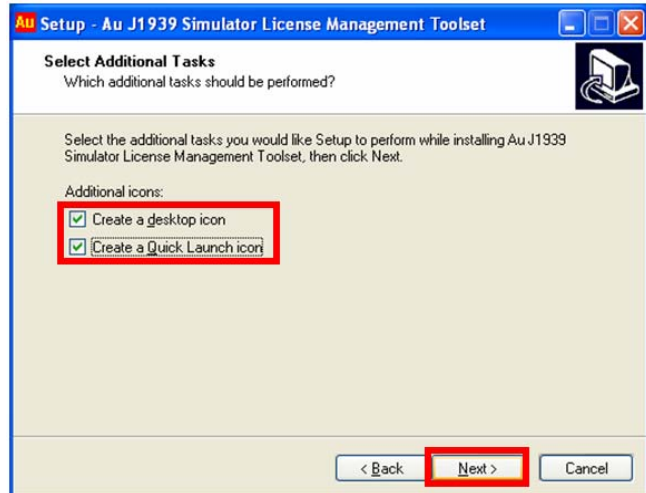

Figure B-6
6. "Select Additional Task" window shows up, check both "create a desktop icon" and "Create a quick launch icon", then click "next" (Figure B-6)